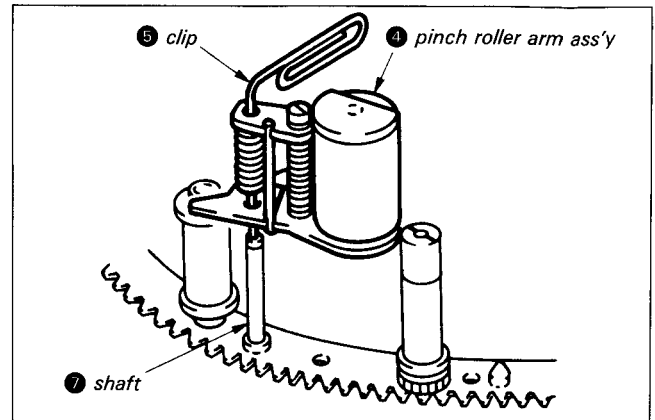

Fig. 7-22.
- 3) Push the end of the clip ⑤ through to contact the loading ring assembly shaft ⑦ and mount the pinch roller arm assembly ④. (See Fig. 7-22, 7-23.)